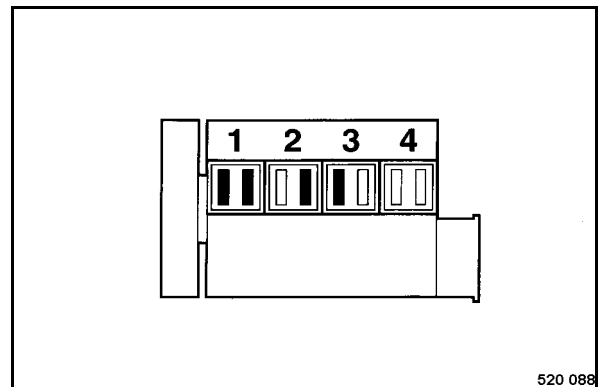

Fig. 167
- Crank the engine with the starter until both valves on cylinder 4 (Fig. 167) are “overlapping” (360° rotation of the crankshaft).
The valves marked black (Fig. 167) can be checked and adjusted.